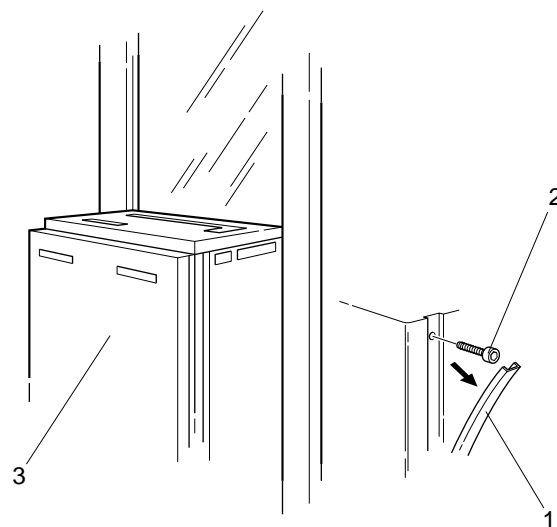

Fig. 1 Opening of the generator
2. Open the generator by removing the front cover as follows: Pry loose the plastic strips (pos. 1 / Fig. 1) on both sides, using a screwdriver or similar tool. Loosen the sixteen screws (pos. 2 / Fig. 1) now accessible (eight on either side) and remove the front cover (pos. 3 / Fig. 1).